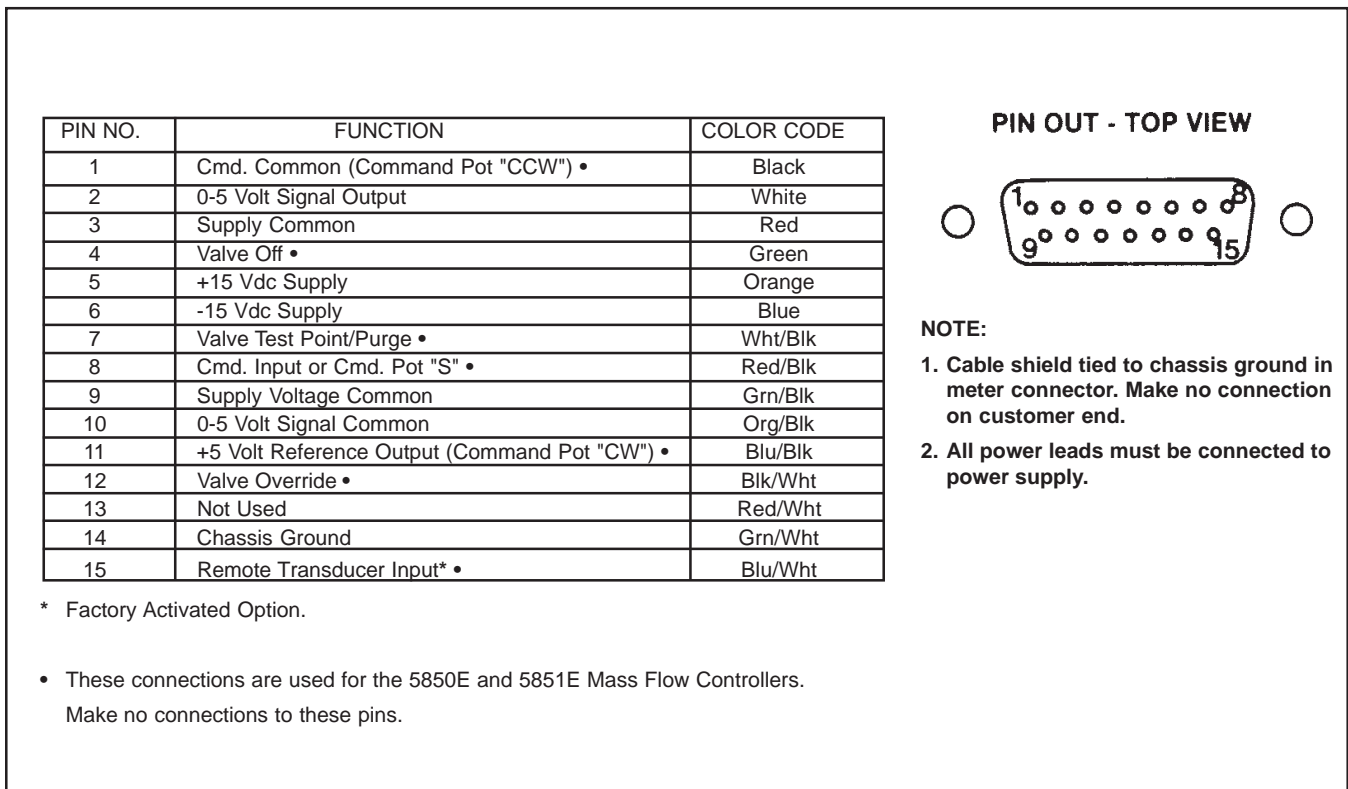

Figure 2-2 "D" Type Connector Pin Arrangement
To insure proper operation, the Model 5860E must be connected per Figure 2-2.
**Note:** There are several functions on the printed circuit board which are not used by the Model 5860E. Avoid making connections marked in Figure 2-2 which are marked •. Also, the plug-in jumpers on the printed circuit board are not used by the Model 5860E and have no effect on performance.